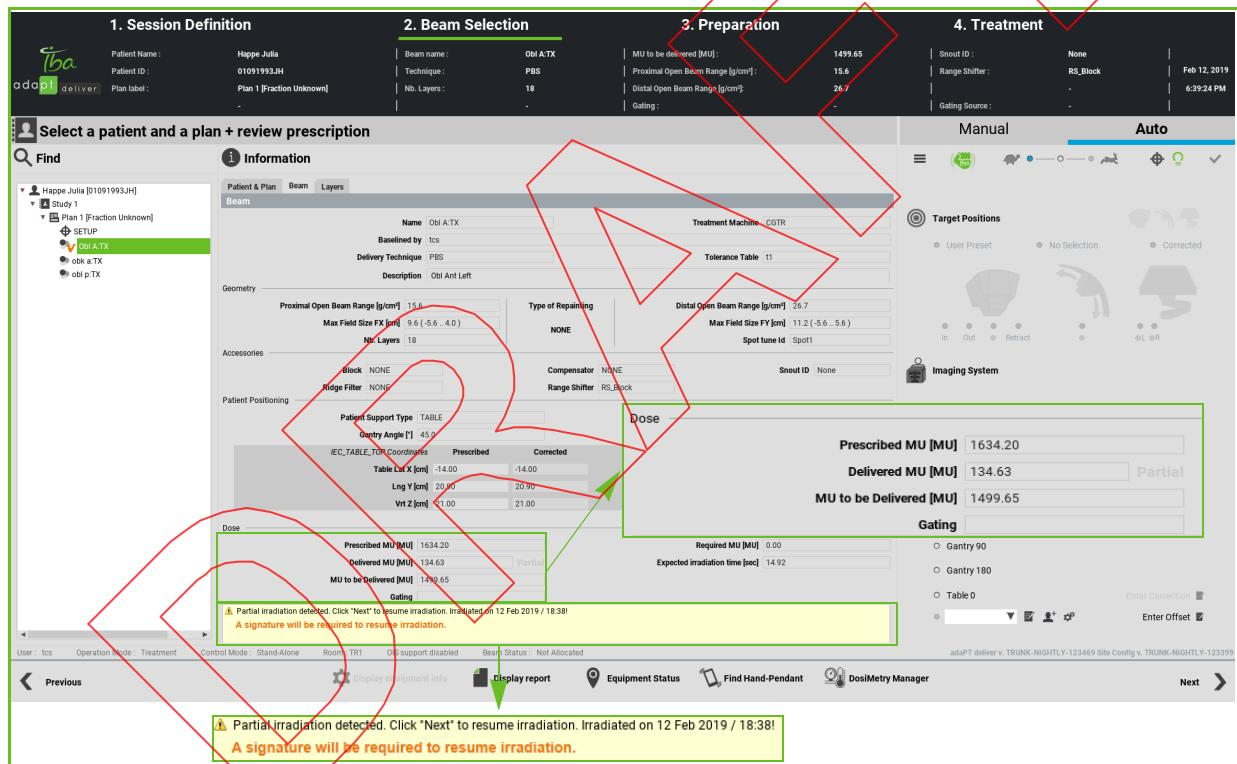

Figure 39-23. Resuming irradiation after partial treatment
6. In the Beam Selection screen (Figure 39-23), the beams marked as partial are indicated by an orange checkmark
7. In the **Dose panel** (Figure 39-23), the user can see that: